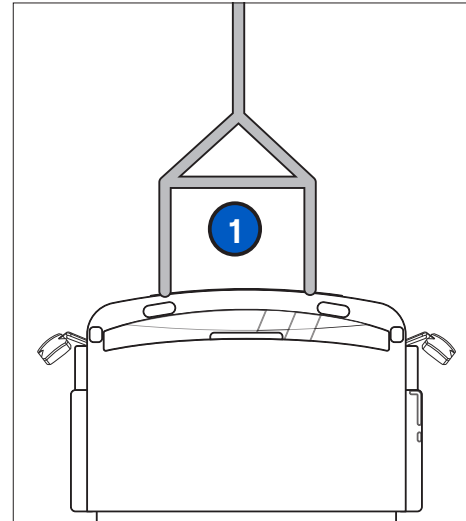

Figure 43 - Spreader bar for recovery
- Use a spreader or stabilizer bar to distribute the load between the tow hooks (**Figure 43 no. 1**).